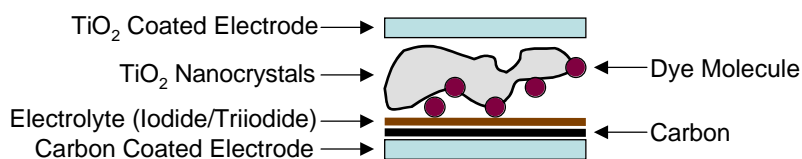

Figure 8
6. What is the function of each part of the solar cell that you built (**Figure 8**)?